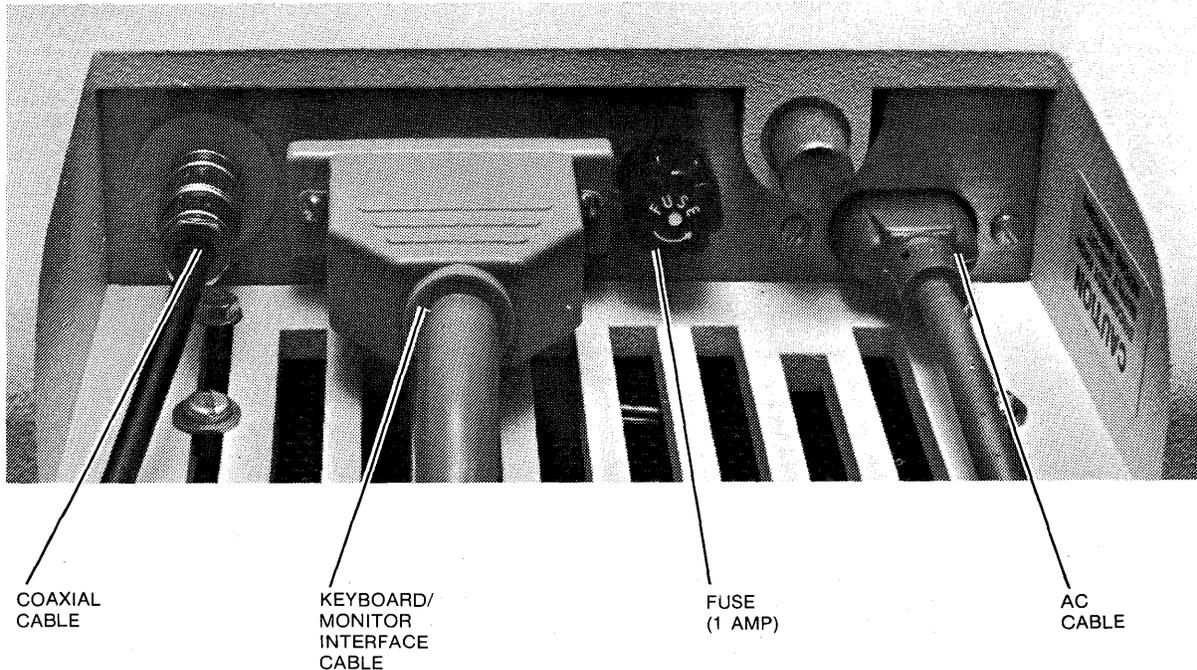

FIGURE 3-2. CABLE CONNECTIONS
3. Connect display to keyboard by attaching keyboard cable to back panel of display as illustrated in Figure 3-2.
4. Interconnect AC cord between connector at back of display (see Figure 3-2) and wall outlet.
6. Connect coaxial cable from the Control Unit to the Display Station as shown in Figure 3-2. Identify Display Station Coaxial Cable by tagging it at the Control Unit connector and at the Display Station.